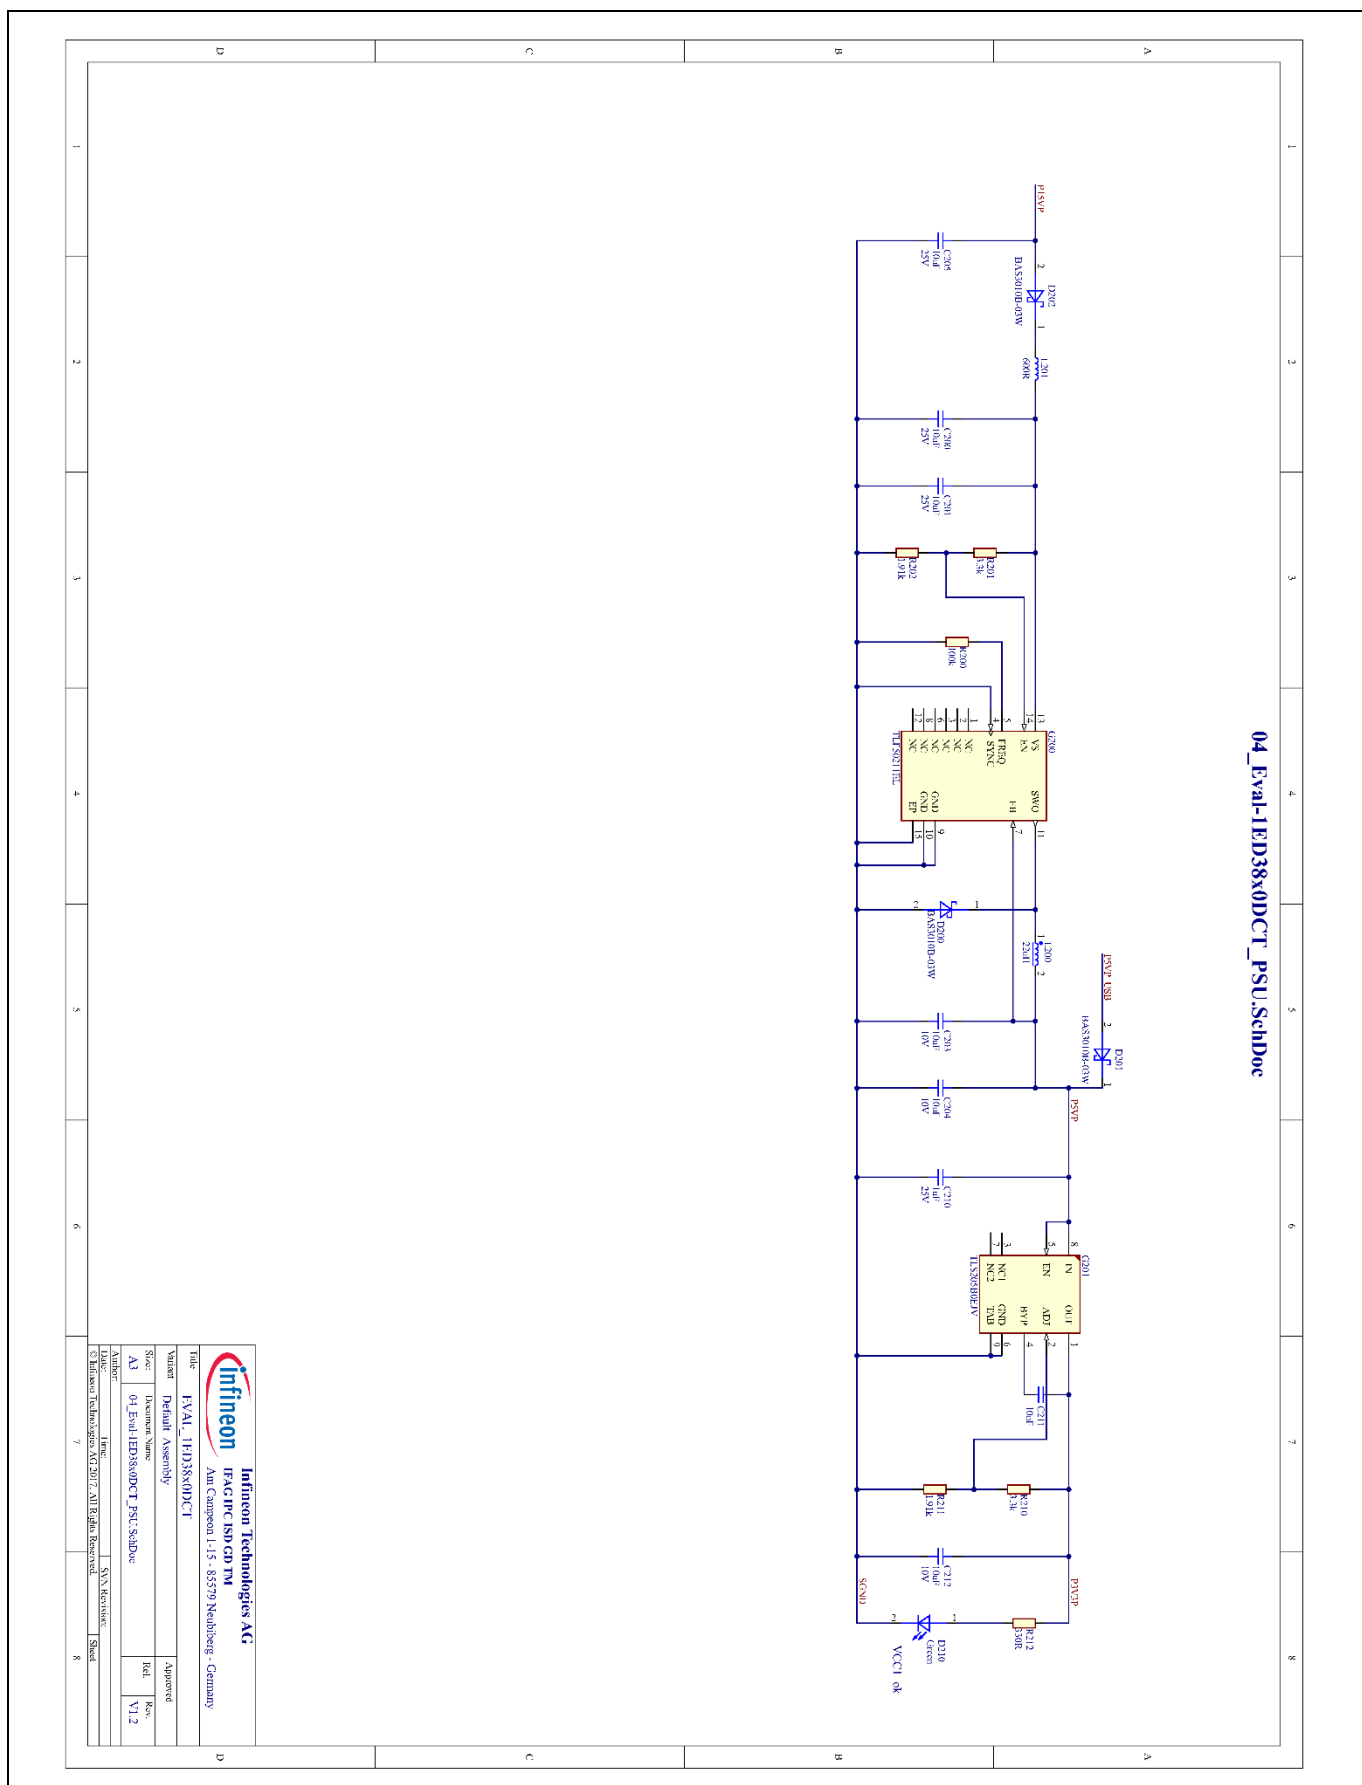

Figure 12 **Schematic of power supply section**
- Power supply section (Figure 12)